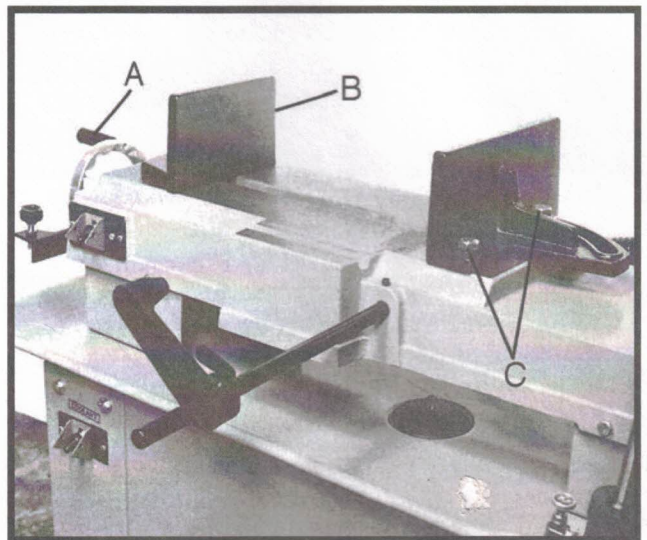

Fig. 9
1. Remove bolt assemblies (C, Fig. 9).
2. Position vise and re-install bolt assemblies as pictured in Fig 9.